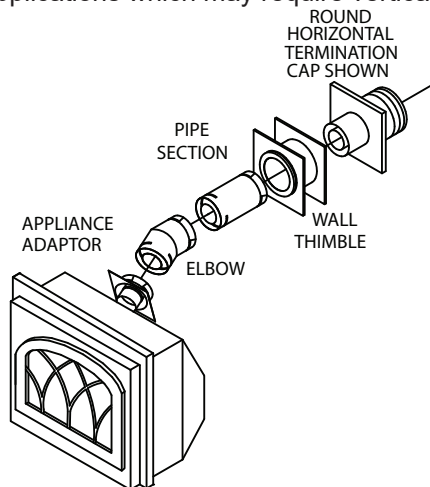

Figure 1
- Horizontal Termination (**Figs. 1 and 2**)